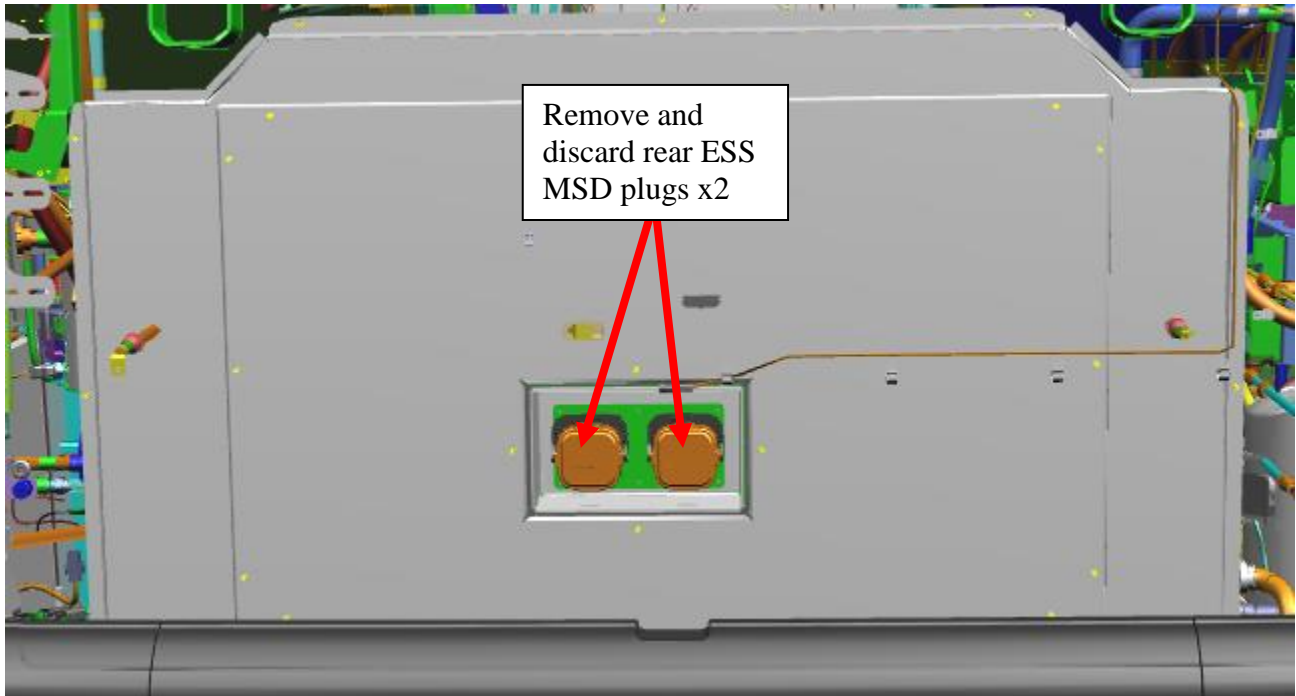

Figure 7: Rear ESS MSDs
2.3 Locate and remove MSD plugs x2 in rear ESS. See figure 7.